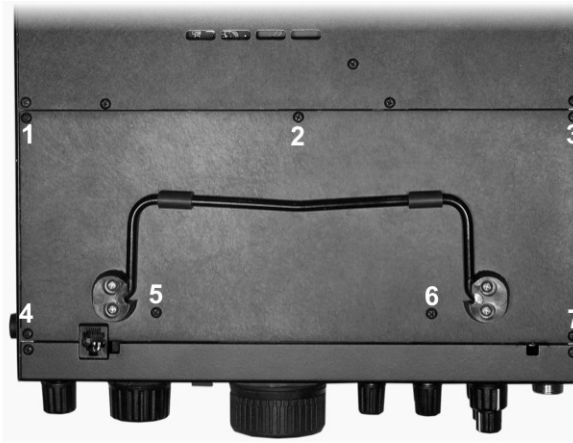

Figure 8. Removing the Bottom Cover.
- Remove only the forward section of the bottom cover. The cover is held in place by seven screws (see Figure 8).
- Replace the bottom cover. Be sure to replace all the screws as shown in Figure 8 . They are required for both the mechanical and electrical integrity of the K3.
Remove only the section of the bottom cover nearest the front panel as shown in Figure 8
Position the bottom cover on the K3 and ensure that it is not pressing against the new RFC. Replace the bottom cover screws (see Figure 8).